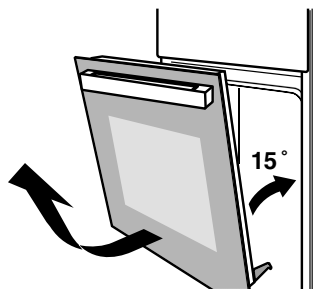

Figure 2
- Close the door to an angle approximately 15°. Lift up and slowly pull the door out from the oven. (Figure 2)